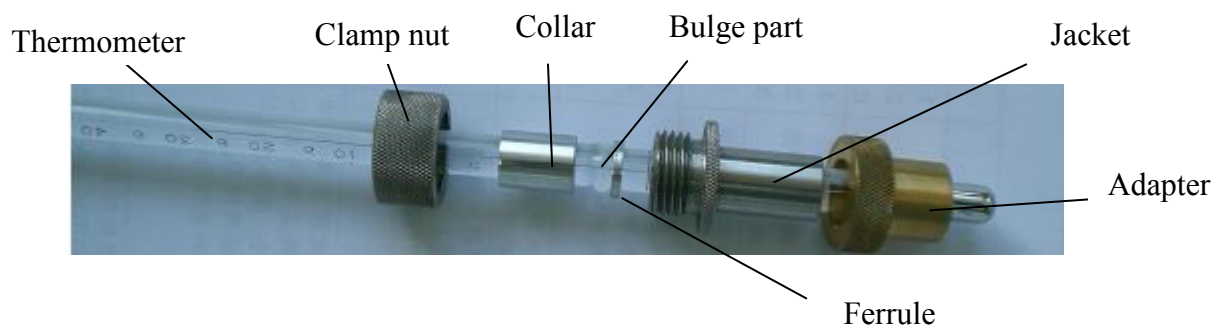

Figure-4 Thermometer installation
2.3.2.4 Please see Figure-4 for the installation of thermometer. Place the Ferrule under the bulge part and then screw the clamp nut onto the jacket to fix the thermometer (do not too tight to make thermometer broken). Insert them into the thermometer holder.